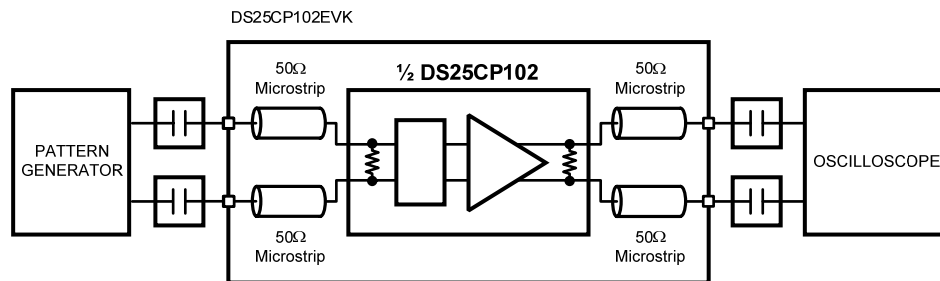

Figure 3. DS25CP102 Test Setup Example
This section provides recommended test setup procedure for the device evaluation. Figure 3 depicts a typical setup and instrumentation you may use for the device evaluation.
1. Configure the test setup as shown in Figure 3.